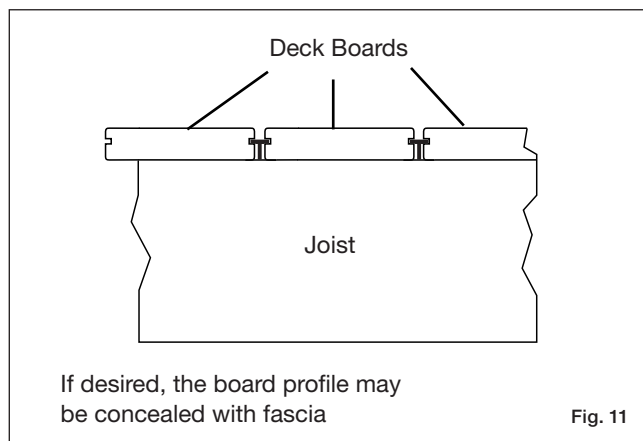

Fig. 11
**Step 2** Use two fasteners per deck board at each joist. For any decking where two boards meet end-to-end over a joist, additional blocking must be used for proper board end support (Fig. 11). Always predrill a pilot hole when fastening within 1-1/2" (38 mm) of board ends, whether using composite or wood screws. Do not over-tighten screws at board ends.